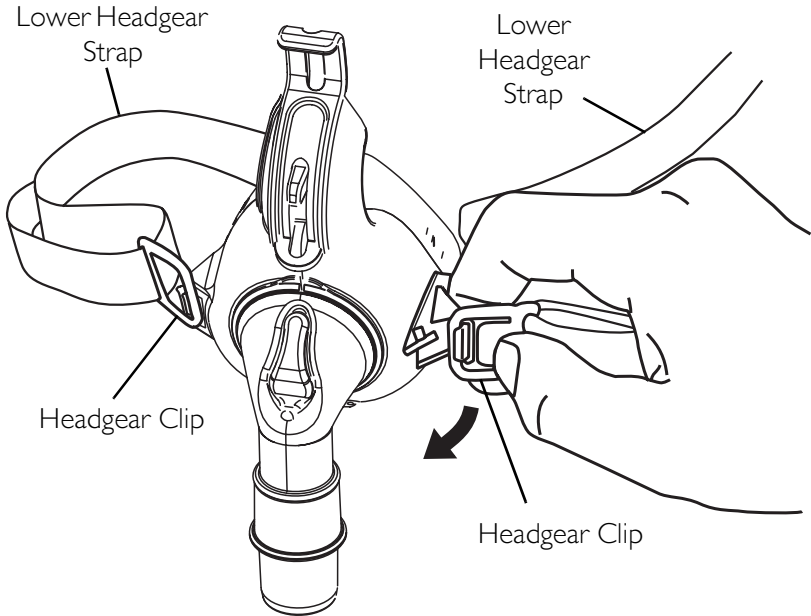

FIGURE 2 Removing the Mask and Headgear
NOTE: For this procedure, refer to FIGURE 1 on page 7 and FIGURE 2 on page 8.
3. Unfasten one or both of the headgear clips from the mask shell. Refer to FIGURE 2 on page 8.
NOTE: For this procedure, refer to FIGURE 2.